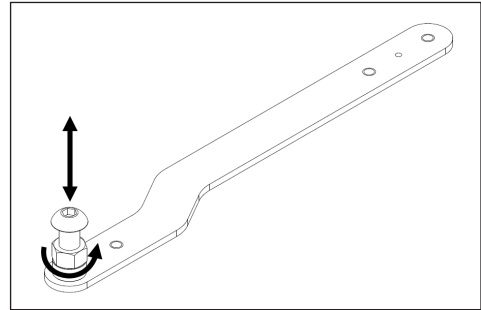

Figure 39: Adjustment Bolt and Jam Nut
2. Use the provided 5/16" T-handle hex wrench (part # TH-1088) to turn the adjustment bolt clockwise to increase the display face angle (tilt the face farther back), or counterclockwise to decrease the display face angle (tilt the display farther forward). Refer to **Figure 39**.